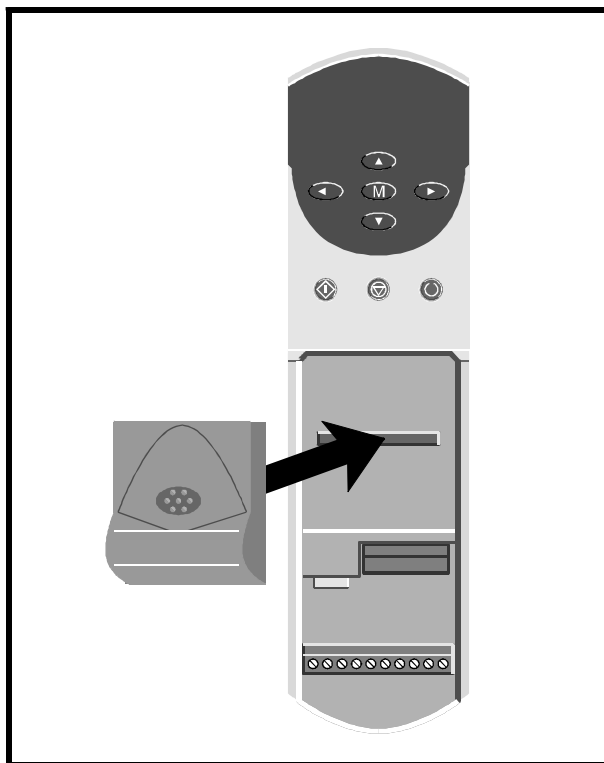

Figure 1 *Inserting the UD55 in the Unidrive*
- 5 Position the multi-way connector on the rear of the UD55 over the connector in the Drive (see Figure 1), and press on the thumb pad to push the UD55 into place.